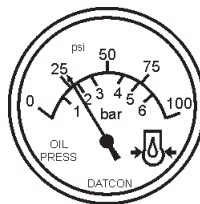

Figure 49. Oil Pressure Gauge
9. The engine oil pressure gauge (Figure 49) will indicate the oil pressure of the engine. Under normal operating conditions the oil pressure is approximately 44 to 73 psi. (303~503 kPa). When starting the genera